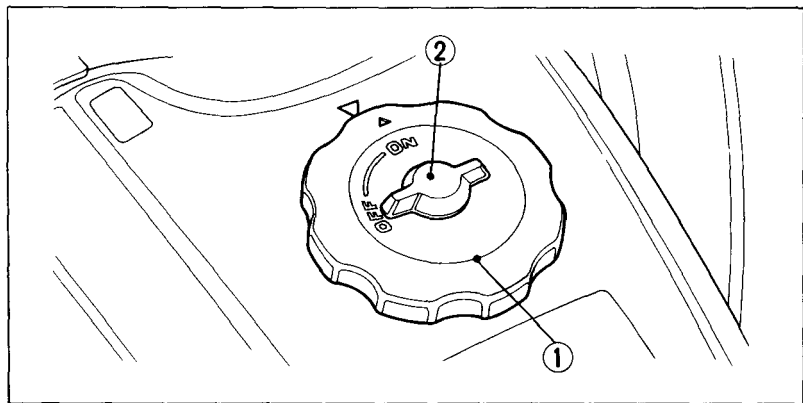

Fig. 2-17 (1) Fuel tank cap (2) Fuel cap vent lever
The fuel tank cap (Fig. 2-17) has a fuel cap vent lever (2) with ON and OFF positions. The lever should be turned to ON to allow fuel to flow when running the engine. Turn the vent lever to OFF to prevent fuel from flowing out the vent hole when transporting the FOURTRAX.